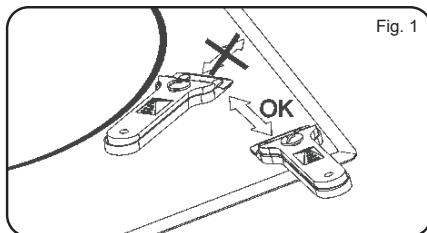

Fig. 1
**!** If you use the spatula incorrectly, the blade may break. If this happens, do not try to remove the piece with your hands, use pliers or a knife with a thin blade carefully. (See Fig. 1)